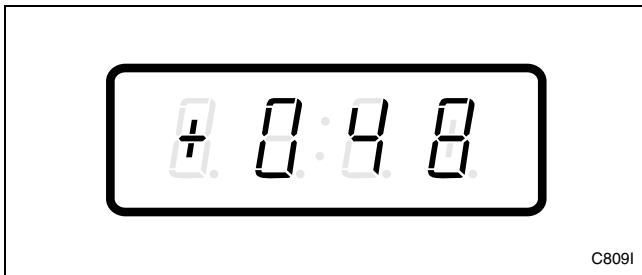

Figure 175
3. Press the DELICATES (+) or the COLD (-) keypad to scroll through the programmable options until “+048” appears in the VFD. Refer to *Figure 175*.